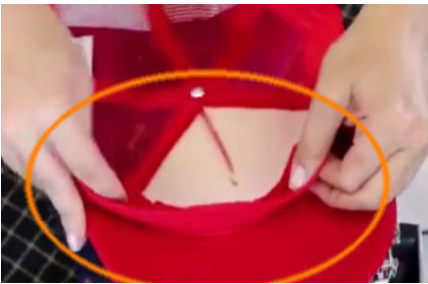

Figure 63
4. Pull back the sweatband located below the bill of the cap. Make sure the entire sweatband is pulled back from seam to seam. **See Figure 63.**